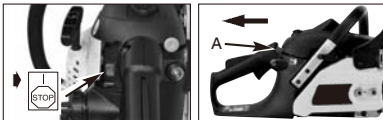

Fig. 9A
1. Move ON/OFF switch to ON "I" position. (Fig. 9A)